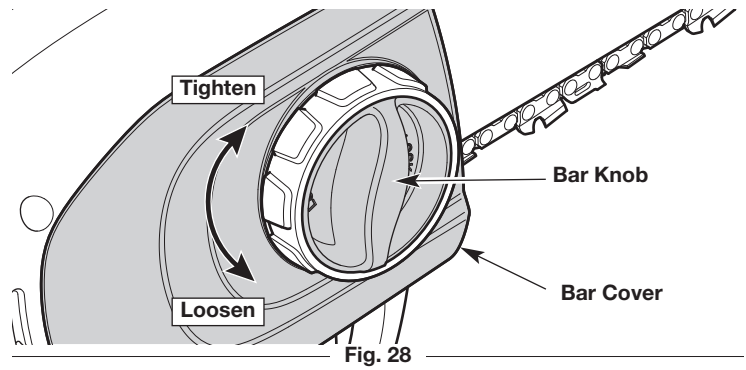
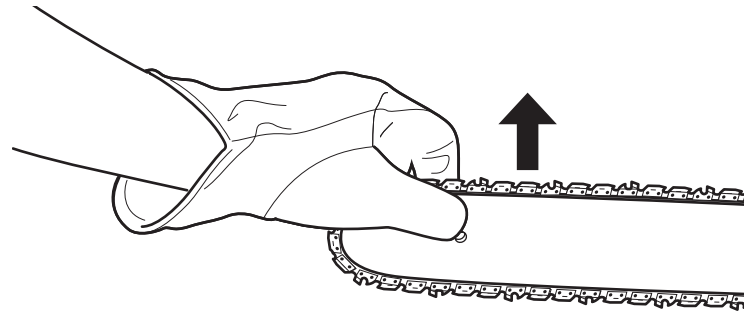
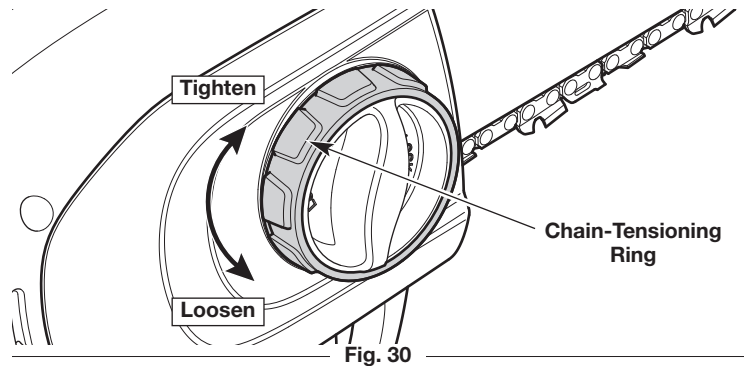
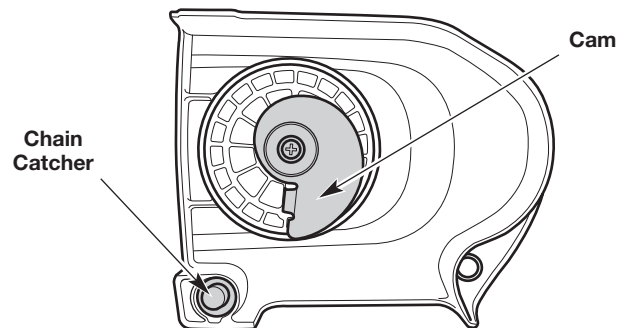

Fig. 28
Fig. 29
Fig. 30
Fig. 35
1. Turn the bar knob counterclockwise to slightly loosen the bar cover (Fig. 28). **DO NOT** remove the bar cover.
2. Hold the guide bar tip up (Fig. 29) and turn the chain-tensioning ring to adjust the tension (Fig. 30).
3. Continue to hold the guide bar tip up (Fig. 29). Turn the bar knob clockwise to securely tighten the bar cover (Fig. 28).
1. Turn the bar knob counterclockwise to loosen the bar cover (Fig. 28).
5. Turn the chain-tensioning ring (Fig. 30) until the cam on the inside of the bar cover is in the position shown (Fig. 35).
6. Place the bar cover onto the motor housing. Make sure the chain catcher is seated securely in the hole on the motor housing (Fig. 35).
7. Turn the chain-tensioning ring (Fig. 30) clockwise until the bar cover is connected to the motor housing and the guide bar begins to move forward.
8. Turn the bar knob clockwise to tighten the bar cover (Fig. 28). **DO NOT** tighten the bar knob completely.
10. Hold the guide bar tip up (Fig. 29). Turn the bar knob clockwise to securely tighten the bar cover (Fig. 28).